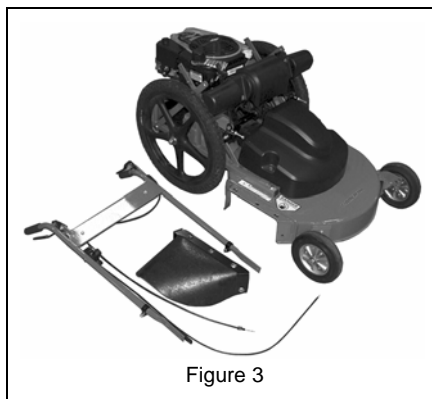

Figure 3
1. Remove mower, handlebar and discharge chute from carton. See Figure 3.